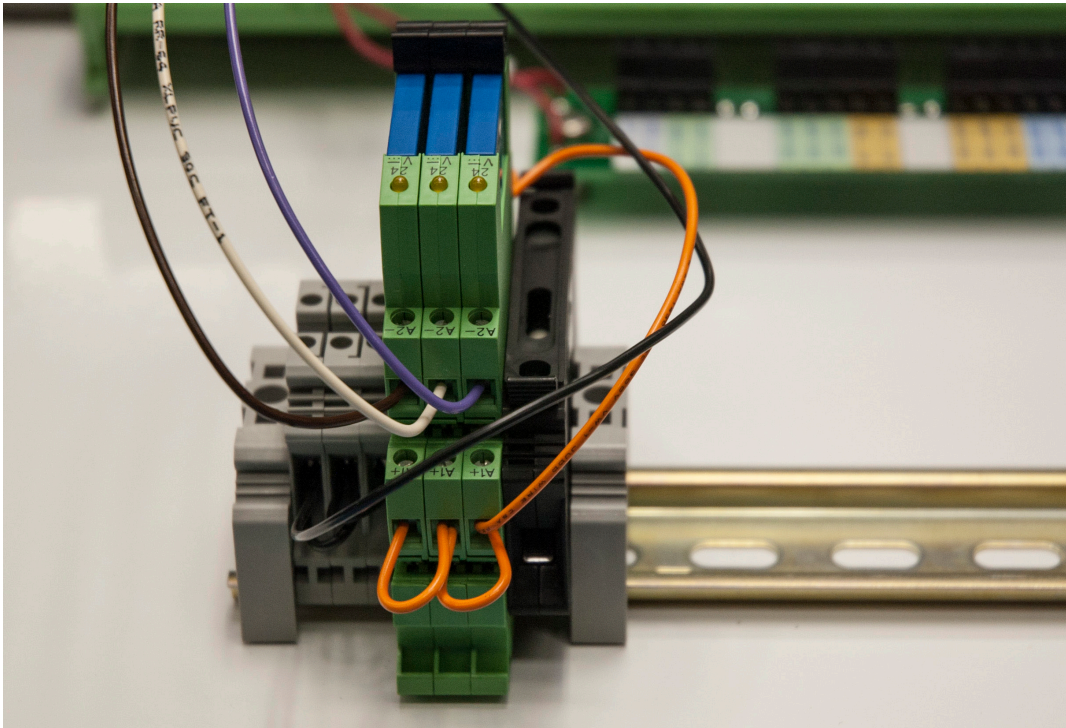

Figure 1
5. Remove the orange wire connecting P1 (phoenix connector) “+” on the terminal board to Valve 1 “A1+” on the relay block as in figs. 1 and 2. All other wires are to remain in their current location.